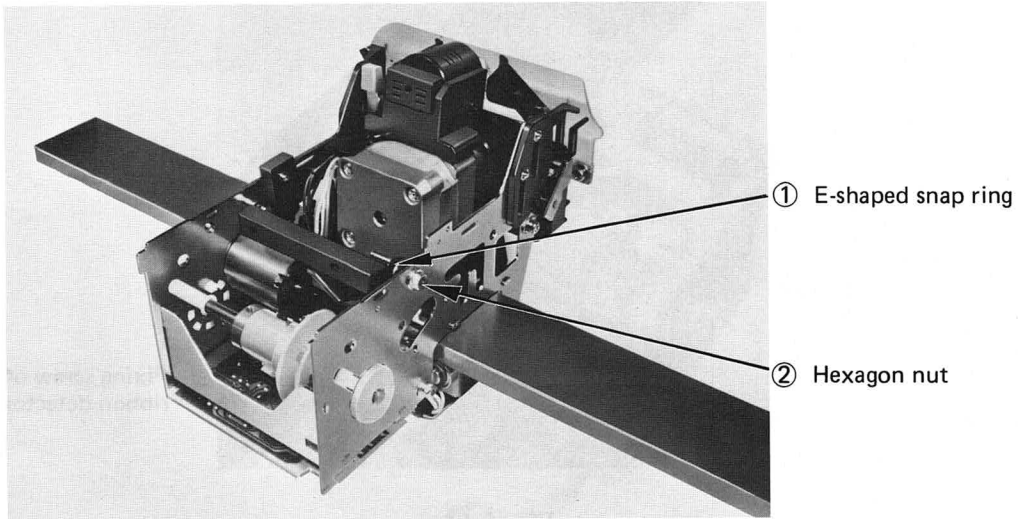

Fig. 5.16
Step 2. Remove E-shaped snap ring ① and hexagon nut ②. (Fig. 5.16)
Step 3. Draw out the lift arm shaft and remove the ribbon lift arm. (Fig. 5.16)